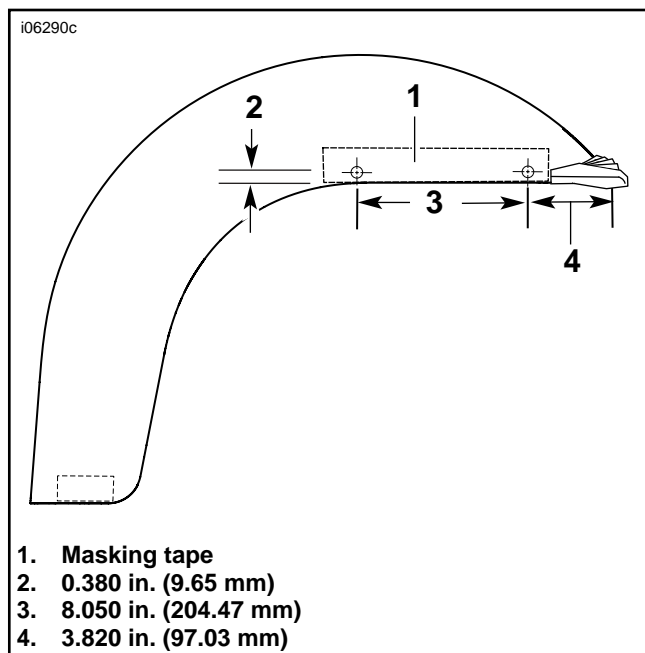

Figure 3. Side Trim Threaded Stud Locations
1. See Figure 3. Hold the fender tip in place and butt the side trim against the fender tip to mark the masking tape with a horizontal line (2) at the center of the side trim.
2. Use calipers to measure (4) from the front edge of the fender, mark a vertical line on the masking tape along both sides of fender.
3. Use calipers to measure (3) from the vertical line (Step 2.). Mark a vertical line on the masking tape along both sides of the fender.